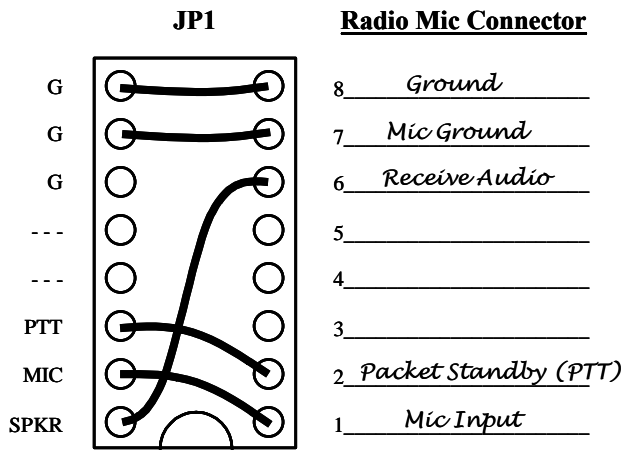

Figure 3 6 Example Jumper Wire Diagram for TS-450 Mic
- **Draw Jumper Wires** - Once you have verified your pin-out and are comfortable with the results, you are ready to label the lines in Figure-2 and draw in the jumper wires. To do this, you simply need to draw a line between the pins on the left of JP-1 (G, PTT, Mic & SPKR) and their appropriate match on the right side of the diagram. For example, draw a line between the “G” pin on the left of JP-1 and the line that you labeled “Ground”. The “PTT” pin should be connected to the pin that you labeled “PTT” and so on. If you are installing the SignalLink on a Data or Accessory port, then refer to Figure 1 for the correct signal names. An example of the microphone Jumper Wiring Diagram for a Kenwood TS-450 is shown in Figure 3.